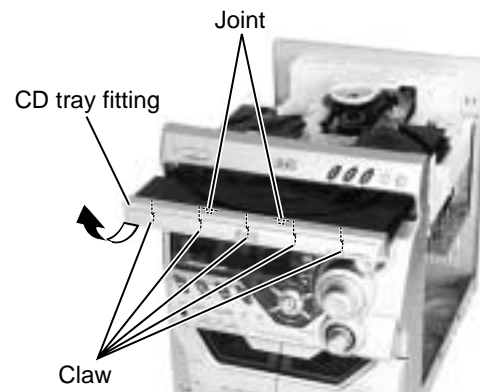

Fig.3
■ Removing the CD tray fitting (See Fig. 3)
(See Fig. 3)